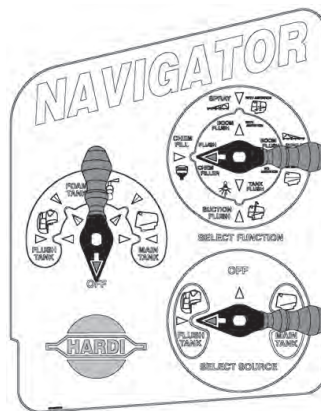

Fig 43
- After adding chemicals, with the SOURCE handle remaining at FLUSH TANK, Fig 43, flush the GRANNI POT with clean water.